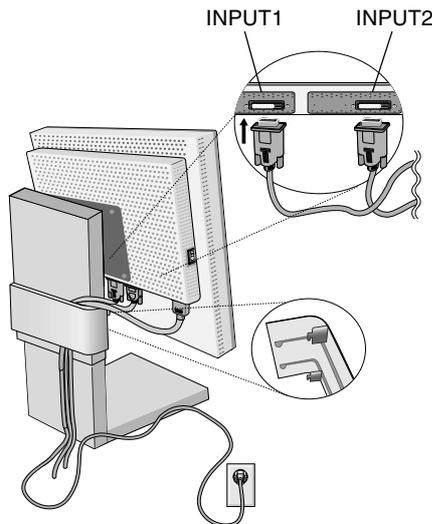

Figure C.1
3. Connect the DVI signal cable to the connector on the back of the monitor (**Figure C.1**).
Collect cables and keep them in the stand with attached cable cover. The cable cover can be attached on the front or back side of Tilt Stand (**Figure C.1, C.2**).
4. Connect one end of the power cord to the AC inlet on the back of the monitor and the other end to the power outlet (**Figure C.1**).